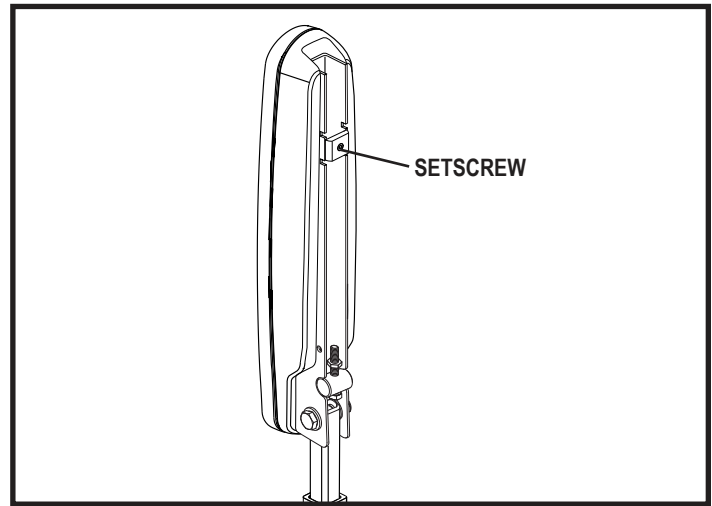

Figure 12. Underside of Armrest
3. Loosen the setscrew on the controller bracket. **See figure 12.**
5. Loosen the setscrew on the underside of each armrest. **See figure 12.**